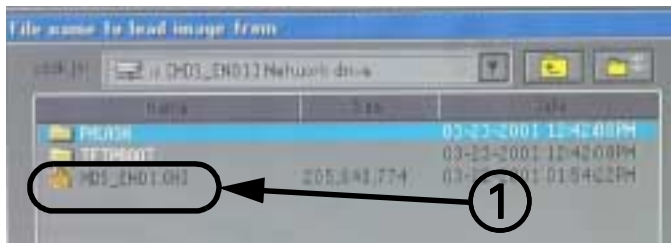
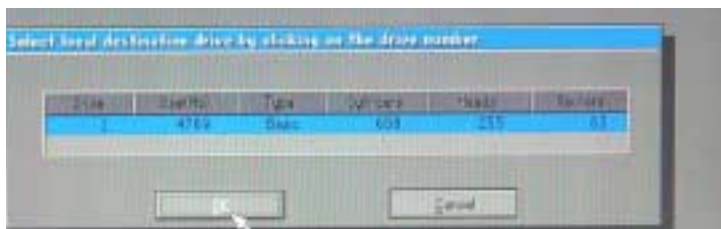

Figure 15-19 Image Folder (Image file)
Figure 15-20 Drive Number Window
5. Click on *xxxx_xxxx.GHO* (① in Figure 15-19) to open “Select local destination drive by clicking on the drive number” window (see Figure 15-20).
6. Click on *OK* button to open “Destination Drive Details” window (see Figure 15-20).